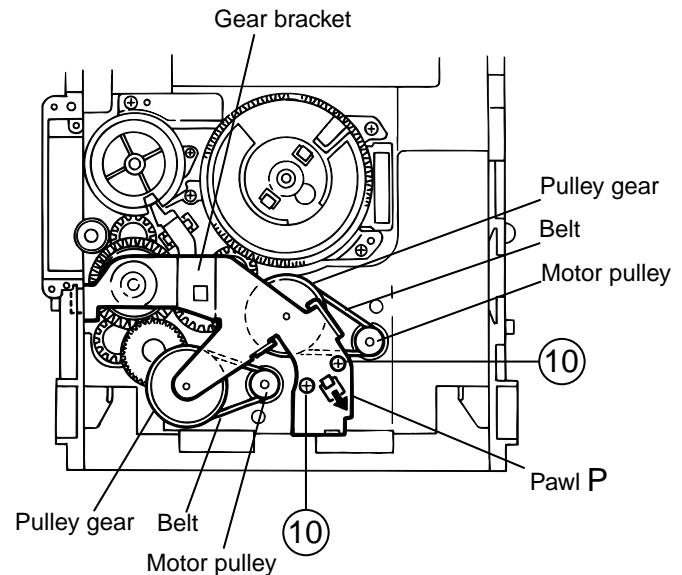

Fig.19
## ■ Removing the actuator motor and belt (See Fig.19~22)
1. Remove the two screws 10 retaining the gear bracket (See Fig.19).
2. While pressing the pawl "P" fixing the gear bracket in the arrow direction, remove the gear bracket (See Fig.19).
4. Remove the belts respectively from the right and left actuator motor pulleys and pulley gears (See Fig. 19).